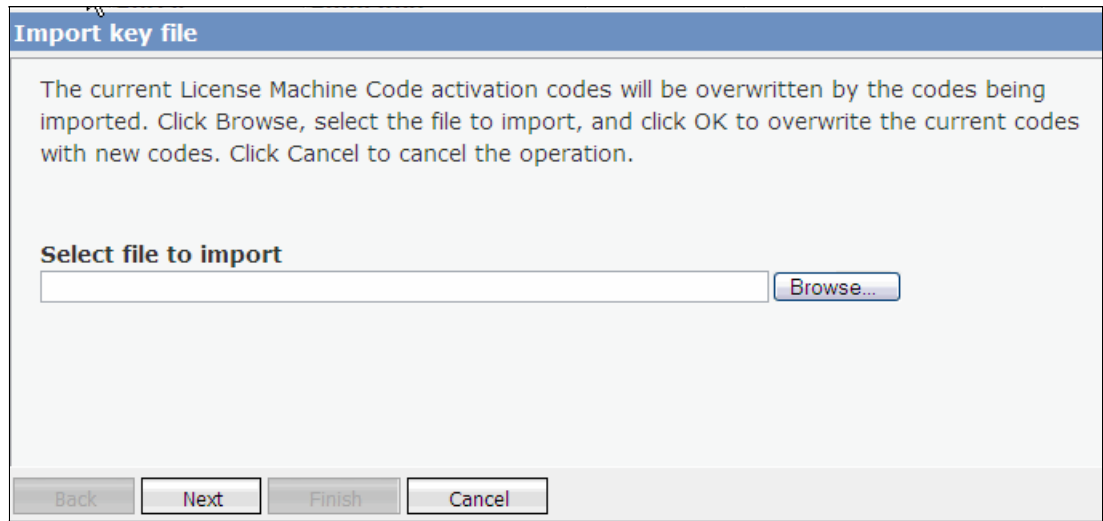

Figure 10-11 Apply Activation Codes by importing the key from the file
2. Click the **Browse** button and locate the downloaded key file in your computer as shown in Figure 10-11.